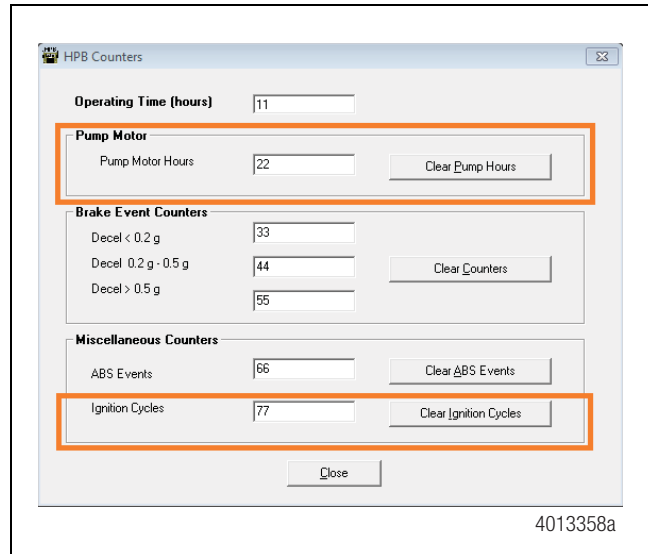

Figure 3.10
- In the Counters window, click on the **Clear Pump Hours** and **Clear Ignition Cycles** buttons ONLY. Do NOT clear any other counters. Figure 3.10.